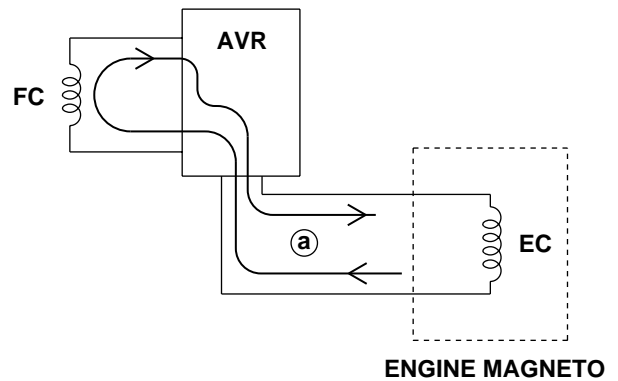

Fig. 5-8
When the generator is started, the permanent magnet on the engine rotates to generate a voltage in the exciting coil. This voltage is regulated by a diode in the A.V.R. to feed a current to the generator field coil. (FC). (See Fig. 5-8)